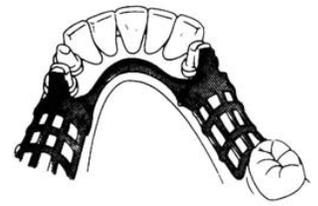

Fig. 19
3. Wax the vertical strut directly against the refractory duplication of the male component. Then wax the rest of the framework (Fig. 19).